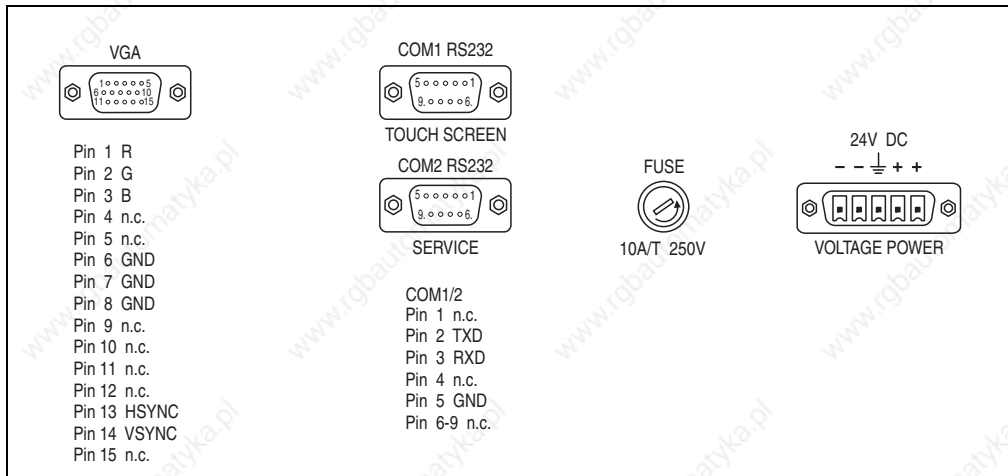

Figure 164: Connections 5D9200.01
**This display unit requires an external 24 VDC supply voltage (plug included with the delivery). The assignments for the plug are the same as those for display unit 5D9200.01 (see figure 164 "Connections 5D9200.01" on page 278.)**